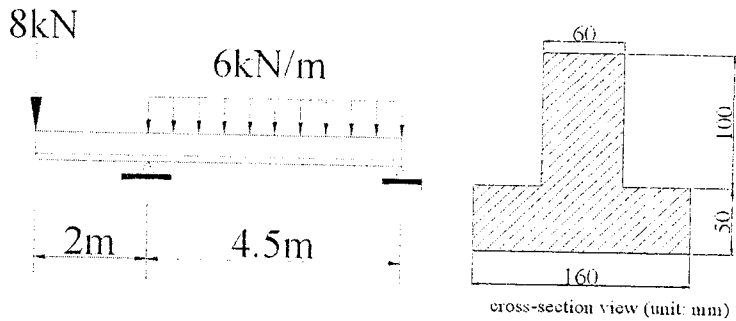

Fig. 2
- For the beam shown in Fig. 2, determine the critical stresses and indicate the locations. (a) the maximum tensile and compressive bending stress; (b) the maximum shear stress resulting from transverse shear. (25%)